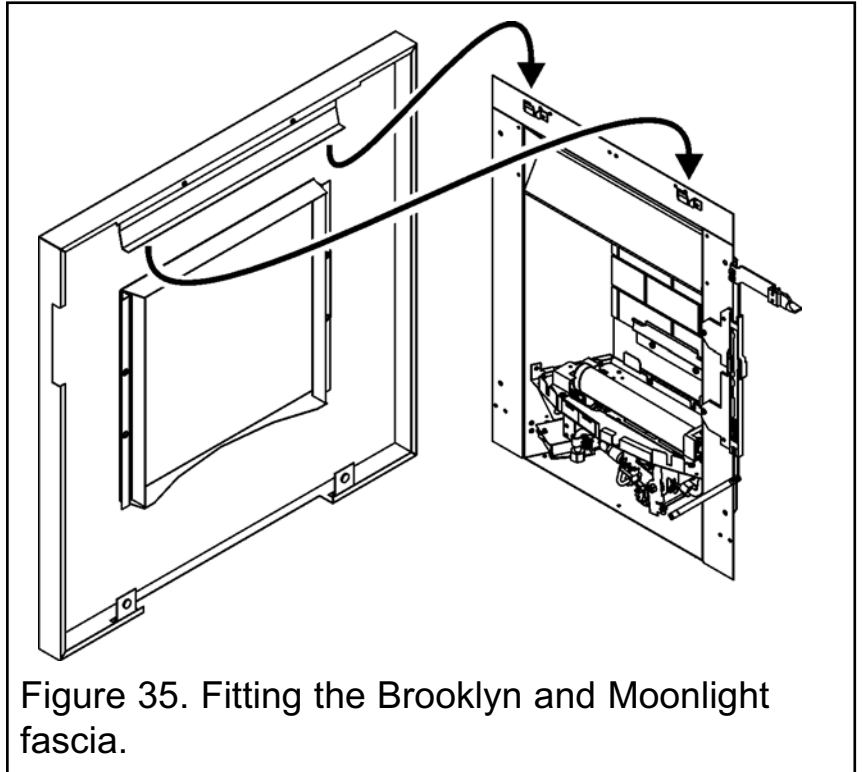

Figure 35. Fitting the Brooklyn and Moonlight fascia.
2. Fit the fascia to the appliance by locating the upper bracket to the upper hanging brackets on the hotbox (See figure 35). The lower section of the fascia is fitted with magnets. Gently swing the fascia towards the hotbox and the magnets will secure the fascia in place.